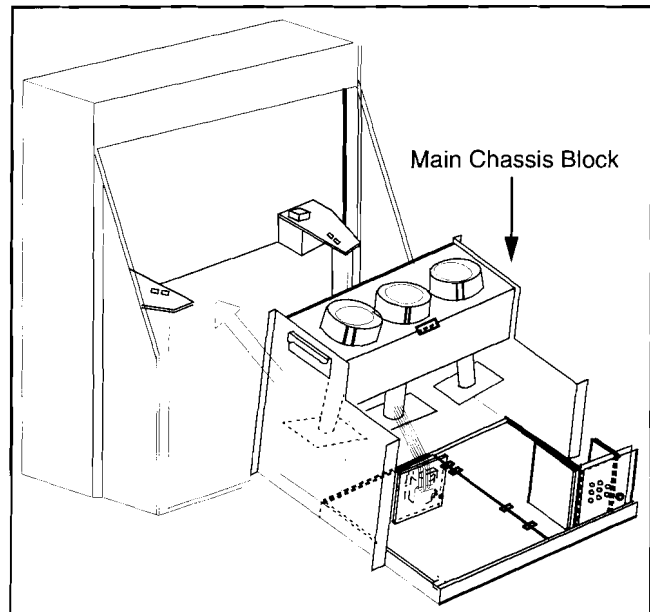

Figure 12. Chassis Removal
Main Chassis Block (Figure 12)
1. Remove the main chassis block from the cabinet (Figure 12),